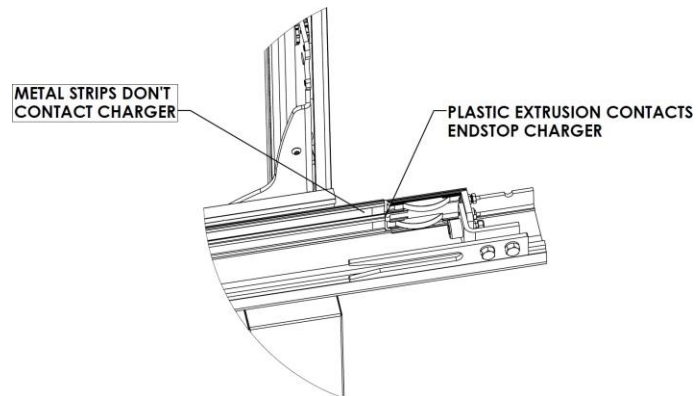

Figure 58: ***TransStrip Metal Strips Must Not Contact the Metal Strips of the Endstop Charger***
- Make sure the metal strips in the TransStrip do not contact the metal strips of the endstop charger (Figure 58).